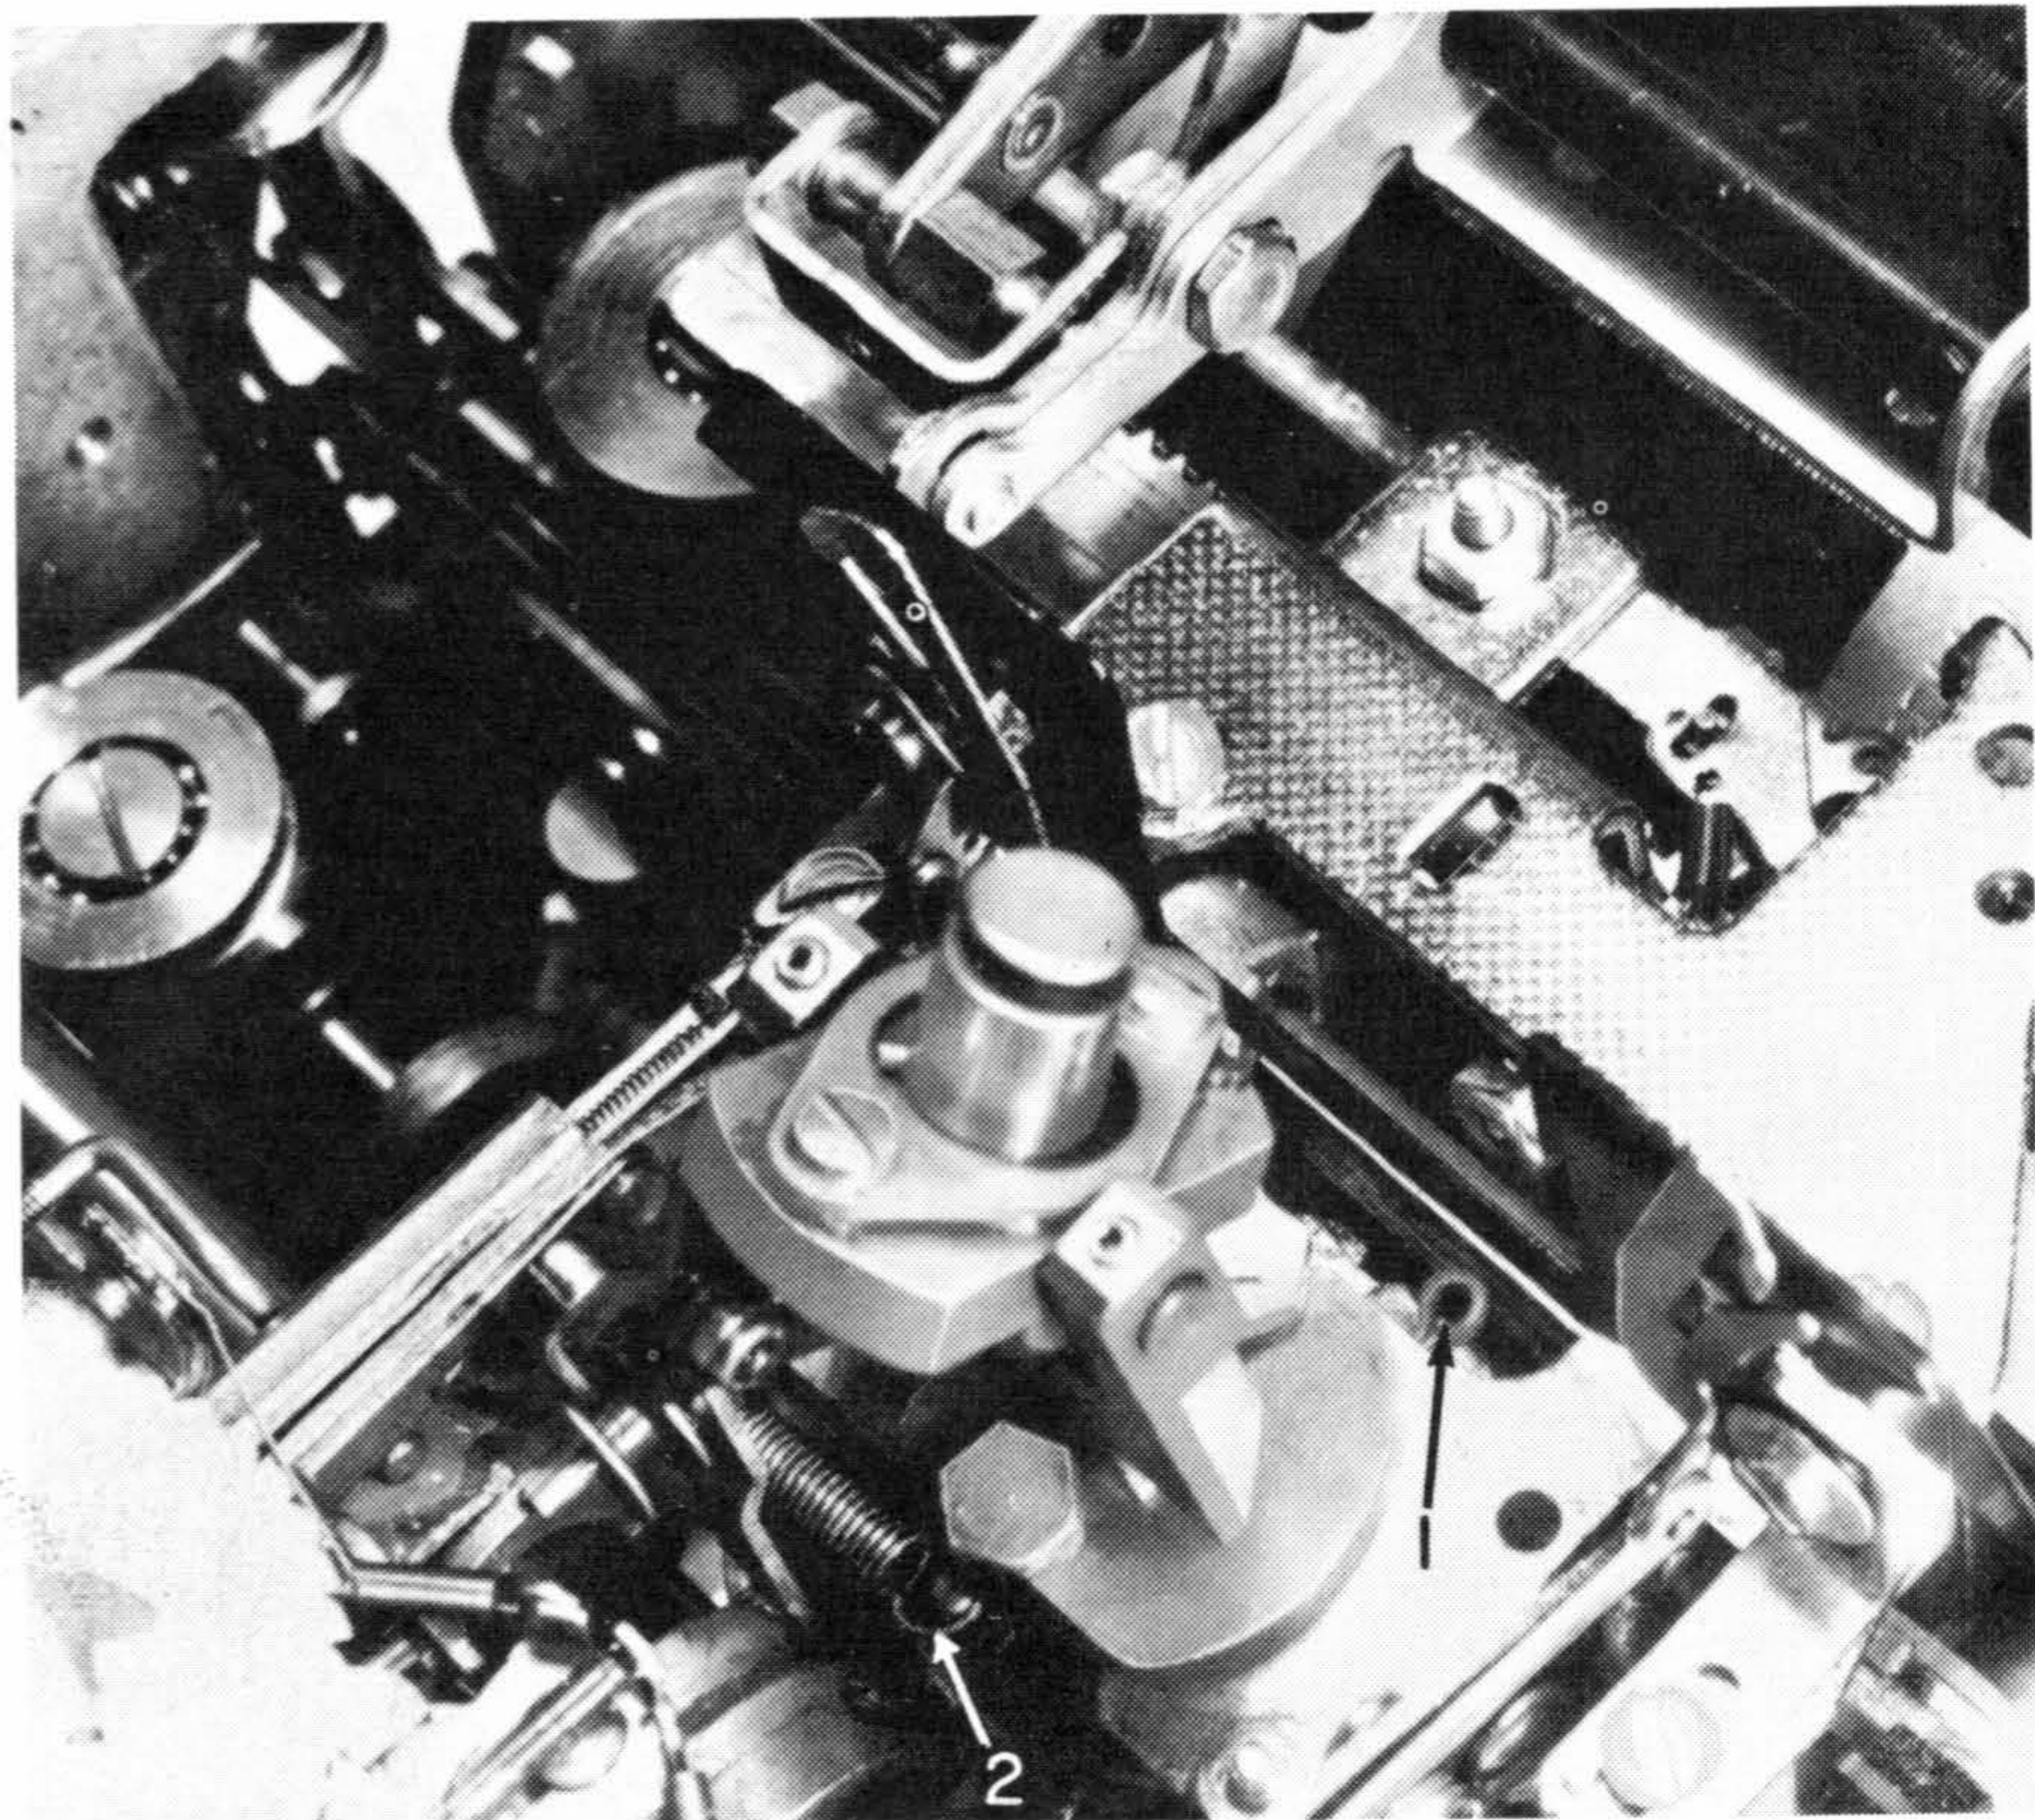

Figure 19. Tilt Tape Replacement
9. Connect the tilt-pulley spring with the open end to the rear (#2, Fig. 19).
4. Insert the tilt tape, eyelet first (#1, Figure 19), between the tilt pulley and the right side of the yoke from beneath the ribbon mechanism.